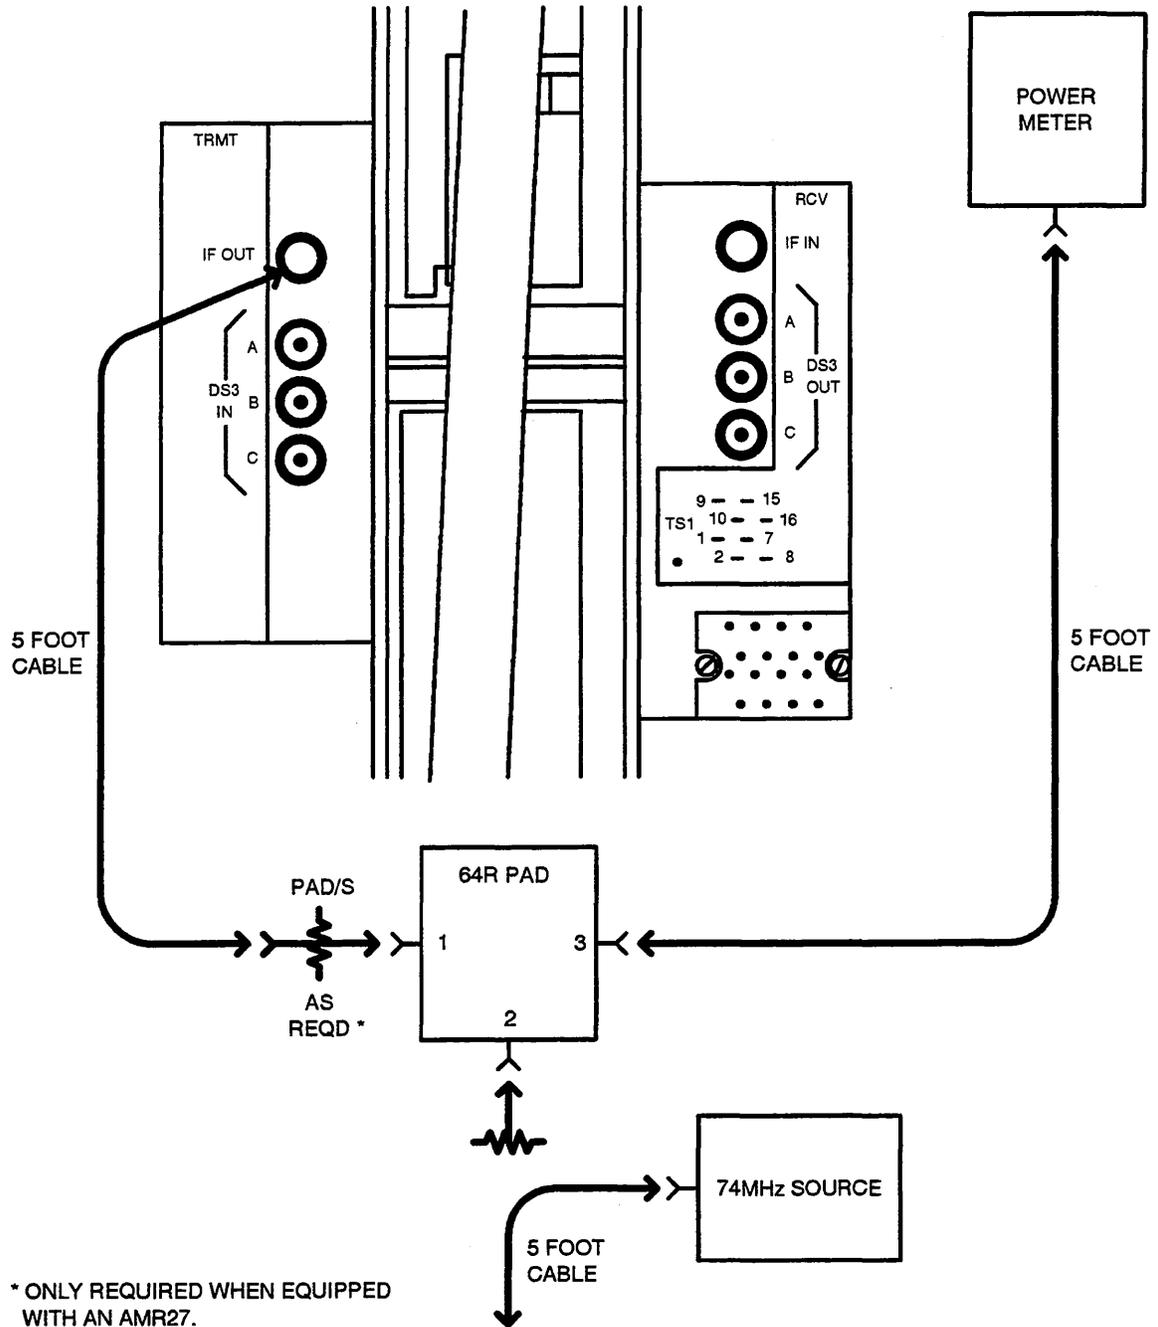
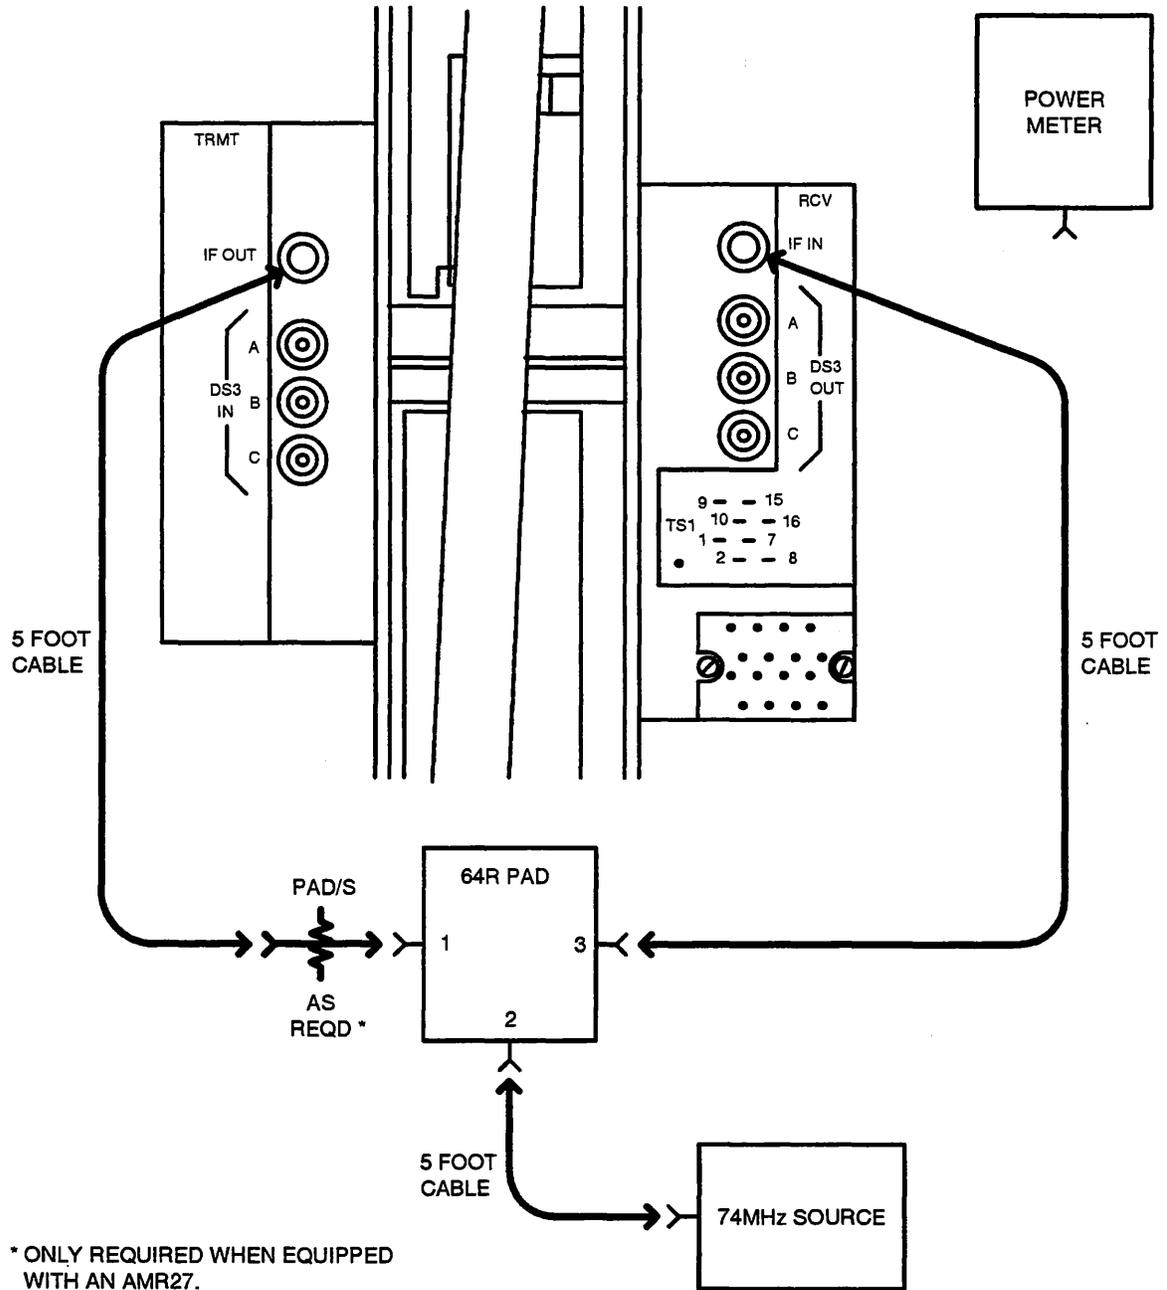

Figure 4- "S" (IF Signal) Power Level Measuring Connections
Figure 5-IF Loopback Error Corrector Stress Check Connections
The test configuration used for this evaluation is shown in Figure 5. An unequal loss combining network is inserted in the coaxial IF input path to the digital terminal receiver for the hop and channel under test. The normal IF input signal is connected through the low-loss path of the combining network, and the adjustable level 74-MHz interference tone is injected into the IF input signal by the high-loss path. For this evaluation, an S/I ratio is established by an independent power measurement of the "S" component at the output of the combining network (Figure 4). The "I" component is then connected and adjusted to establish the proper pre-error-correction error rate with the "S" input port connected to the combining network (Figure 5).
- Refer to Figure 4.
4. Establish the test connections shown in Figure 4.
7. Connect the cable with the "S" signal and the test cable with the "I" interference to the unequal loss combining network as shown in Figure 5.
The test configuration for the TE dynamic stress procedure is shown in Figure 4. The test procedure will vary depending on the type of digital transmitter/receiver configuration. There are three configurations of digital equipment: